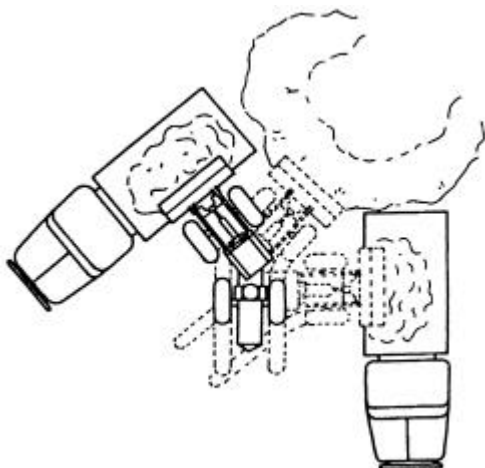
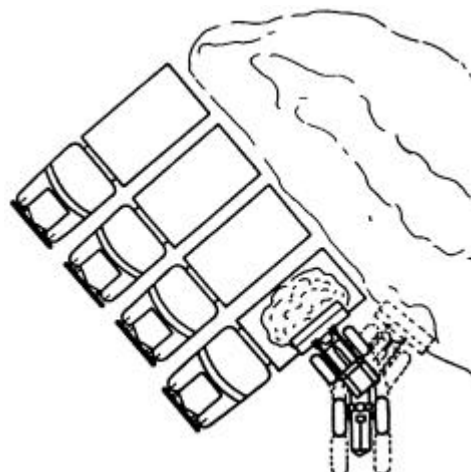

Fig. 4.38. "V" Loading Method
Fig. 4.39. Step Loading Method
1. When loading from a bank or stockpiling, use the V-method shown in Fig. 4.38, or the step loading method shown in Fig. 4.39. Keep the trucks close to the work area to minimize loader travel. Keep work areas clean and level. When possible, spot the next truck to be loaded on the opposite side as shown in Fig. 4.38.
Approach the bank or stockpile with the engine at full governed speed. Keep the bucket flat, working into the material at or near ground level. As the bucket penetrates the material, raise the bucket slightly. When the material boils to the top of the spillboard, roll the bucket all the way back, raise the bucket to provide ground clearance and, at the same time, disengage the forward travel of the loader as shown in Fig. 4.38. Back away in an arc from the bank or stockpile as shown in Fig. 4.38 and 4.39 just far enough to allow turning of the loader for the approach to the truck. Digging in hard material can be aided by "wiggling" the bucket edge immediately after penetration. Operate the bucket control lever alternately between the roll back and dump positions. This action will loosen the material and improve bucket loading. Coordinated operation of the two hydraulic control levers as the bucket enters the material will yield satisfactory bucket loads. The boom assembly need not be fully raised to dump the bucket. Adjust the dump height to the height of the side of the loaded vehicle.
Raise the bucket to provide ground clearance and, at the same time, disengage the forward travel of the loader. Back away in an arc from the bank or stockpile as shown in Fig. 4.38 and 4.39 just far enough to allow turning of the loader for the approach to the truck.